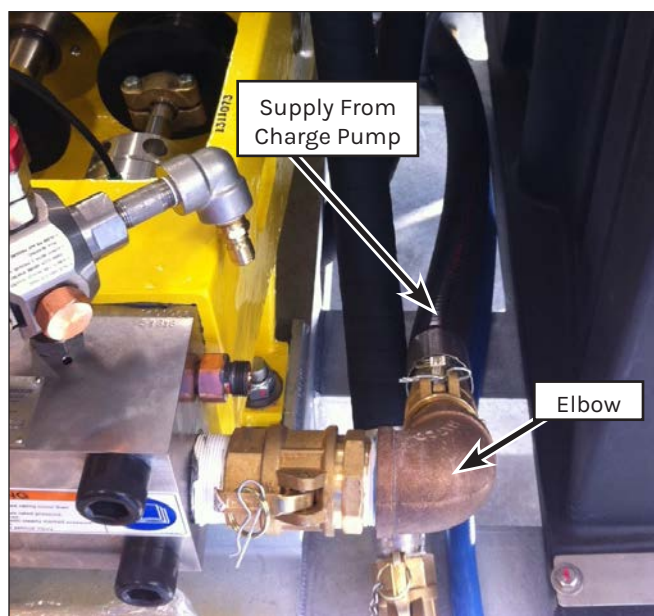

Figure 79: Supply Hose from Charge Pump.
1. Remove the supply hose (Figure 79) (supply from charge pump) from the suction elbow fitting on the 15K/20K manifold.